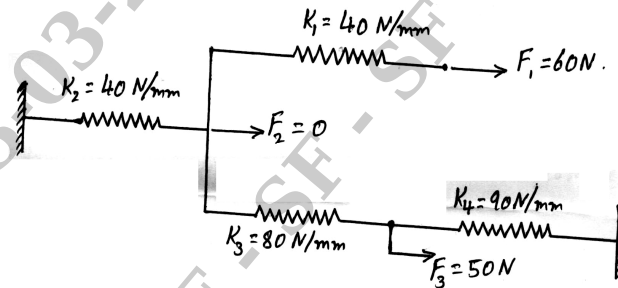

Fig Q1(c) (08 Marks)
- c. For the spring system show in Fig Q1(c), using the principle of minimum potential energy. Determine the nodal Displacements.